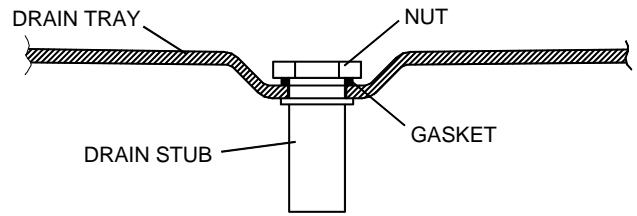

Fig.1
- Remove the drain tray then fit the drain stub, nut & gasket (Fig.1). Refit the drain tray.